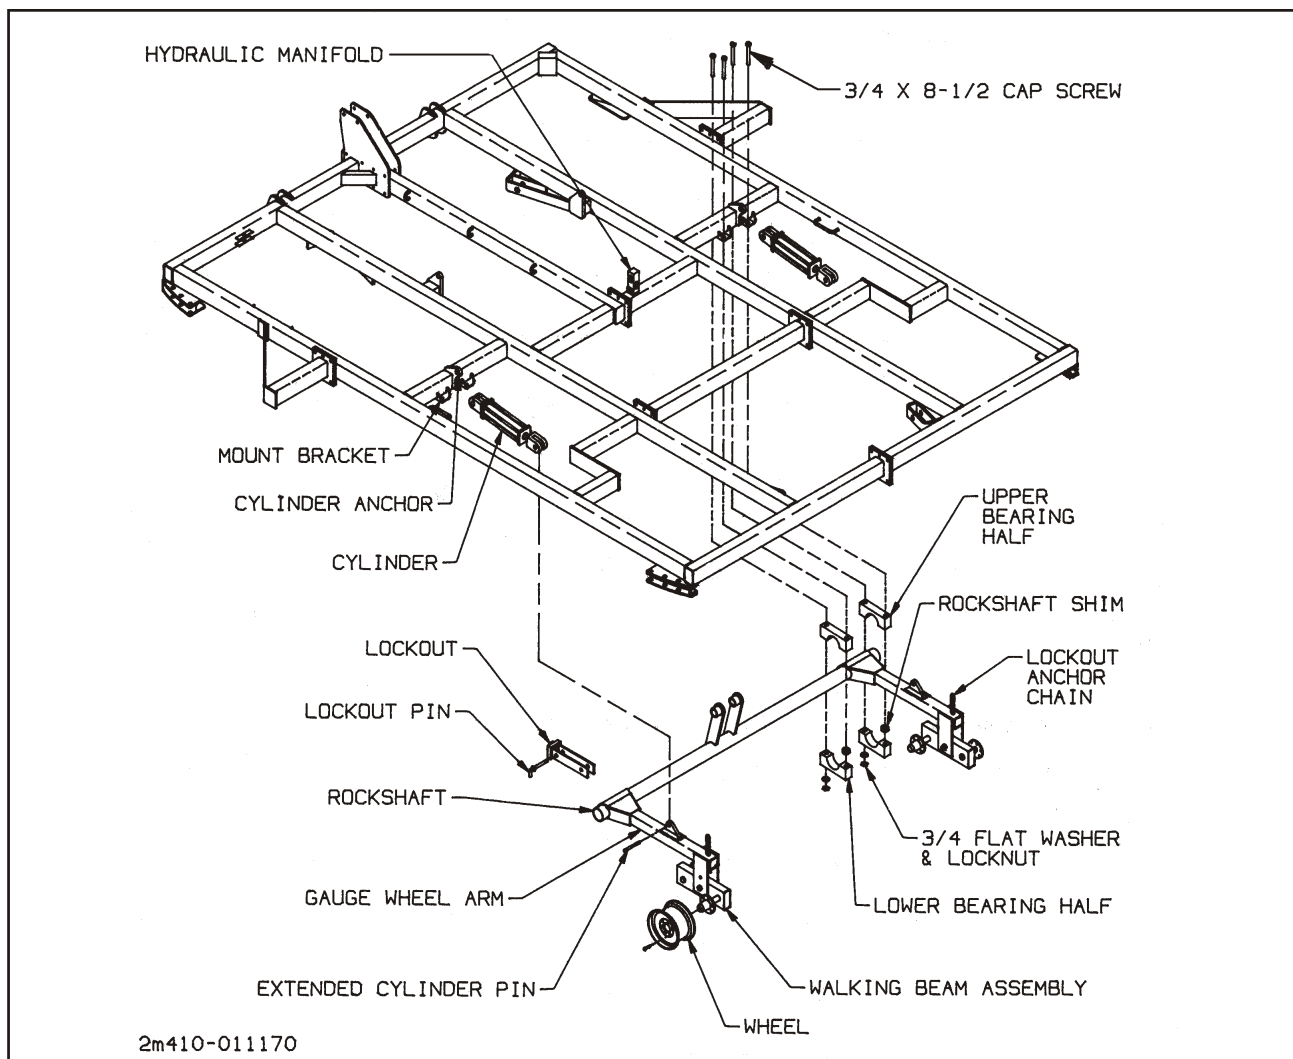

Figure 3-4 2227 Rockshaft Installation
SEE FIGURE 3-4 FOR PART NAMES.
- 3-4.9** Position the lockout assemblies above the gauge wheel arms and the rod ends of the cylinders (**See Figures 3-4 and 3-5**). The open end of the lockouts should be over the gauge wheel arms with the U-shaped cutout on the opposite end facing upwards.
3-6.1 Install the hydraulic manifold on the frame and secure with 1/2" x 3-1/2" cap screws and locking nuts. The manifold mount is at the center of the frame above the rock-shaft (See Figure 3-4).